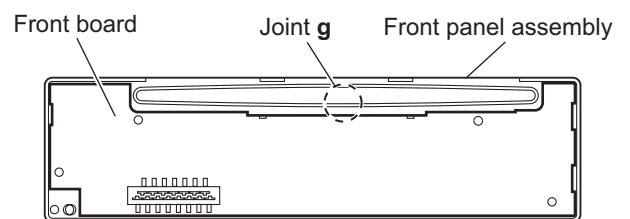

Fig.10
- (3) Release the joint **g** and take out the front board. (See Fig.10.)
3.2.5 Removing the clamper assembly (See Figs.10 and 11)